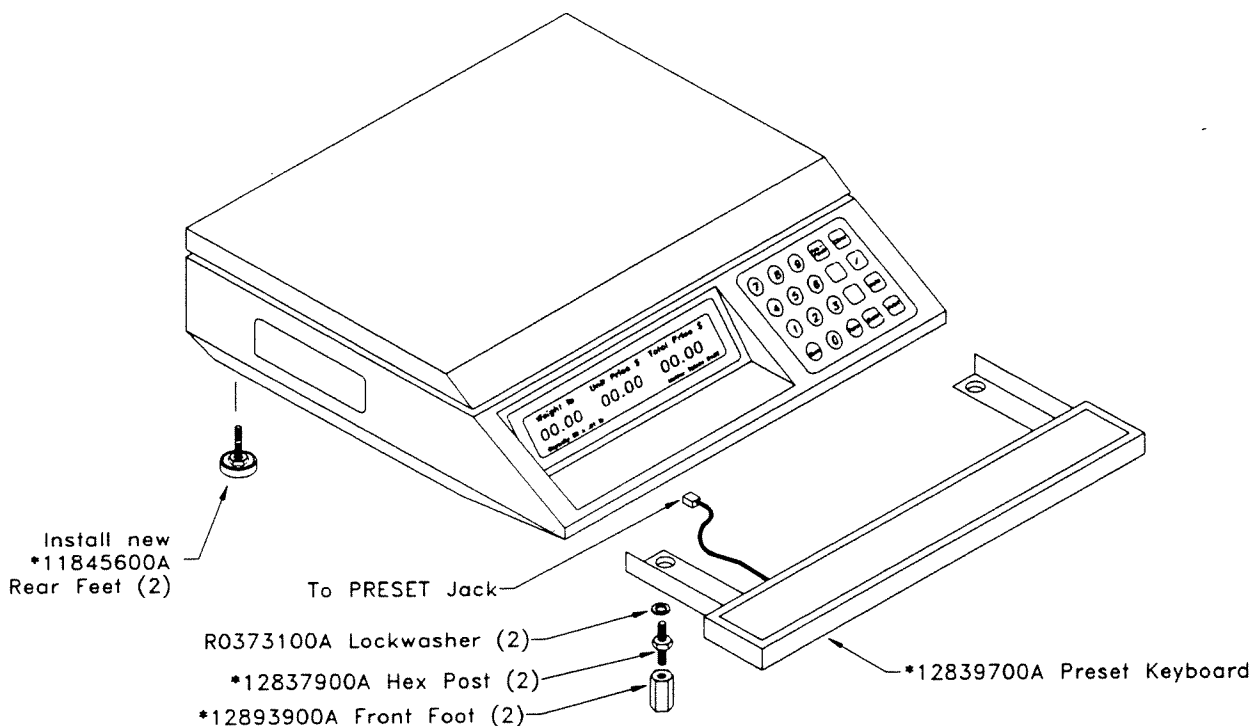

Figure 4.6 Preset Keyboard Installation
- 4.5.3 Install the new *11845600A Rear Feet on the satellite units. (Figure 4.6)
- 4.5.4 Mount the *12839700A keyboard assembly on the front of the scale using the two *12837900A hex posts and lockwashers where the front feet were removed. (Figure 4.6). Tighten the hex posts so the lockwashers make grounding contact with the scale base.